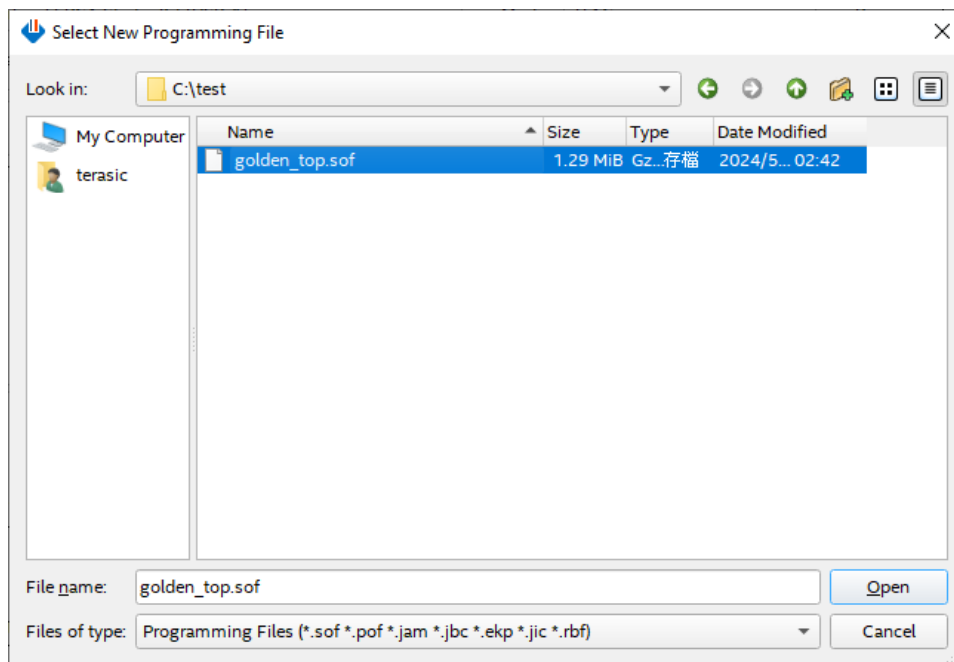

Figure 3-8 Select the .sof file to be programmed into the FPGA device
6. Select the .sof file to be programmed, as shown in **Figure 3-8**.